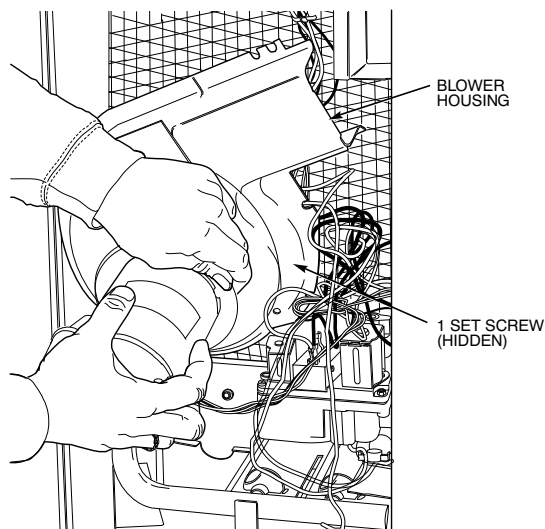

Fig. 13 – Removing Inducer Assembly
15. Remove 5 screws holding Inducer Assembly (see Fig. 13) and remove assembly.